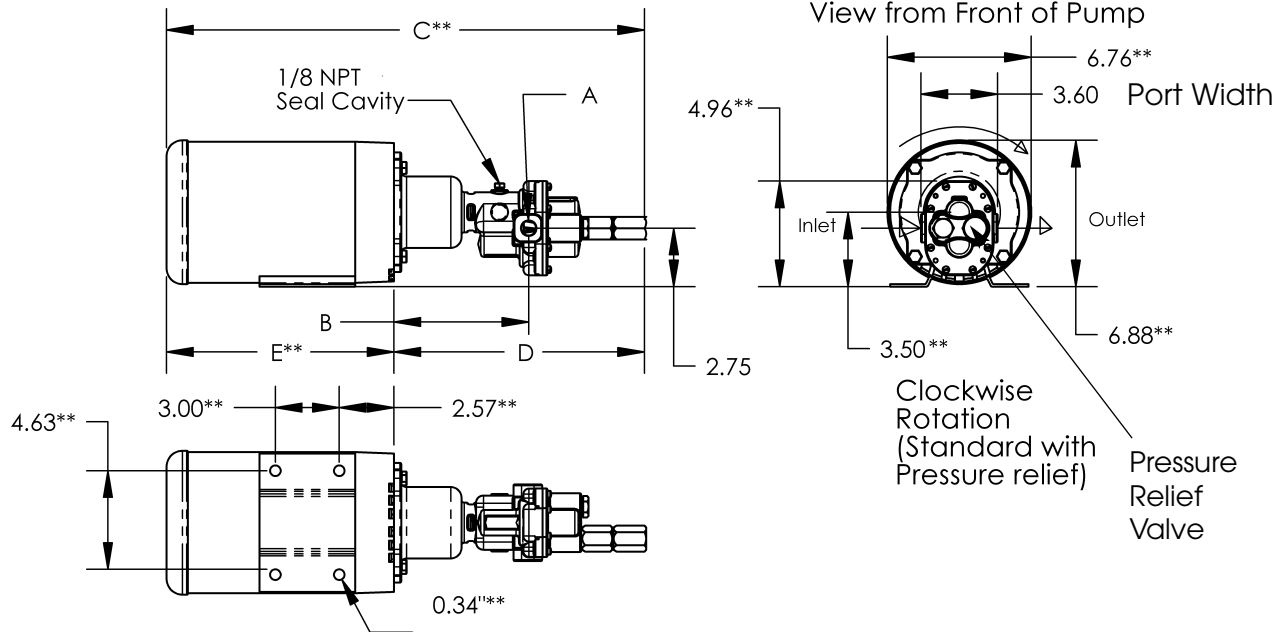

Figure 1 — Dimensions
4. Recheck motor and pump rotation. Proper pump rotation is clockwise (CW) looking at the front of the pump when pressure relief valve is installed by manufacturer (See Figure 1).
5. On all standard models, pressure relief valve is always on discharge side (See Figure 1).